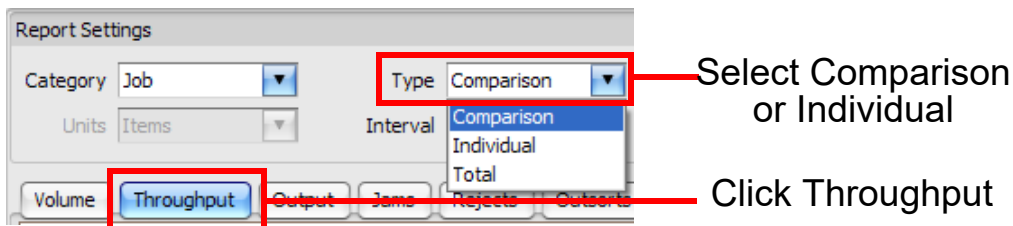

Figure 5-23: Report Settings for setting target range
2. Click the **Type** drop-down arrow and set it to **Comparison** or **Individual** (Figure 5-23).